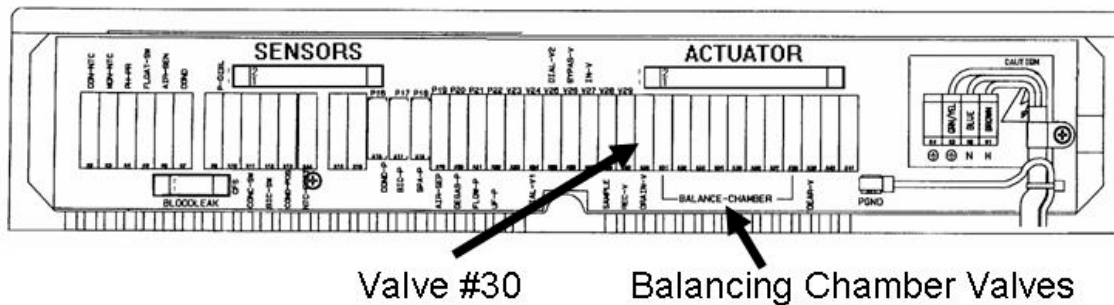

Figure 95 – Distribution Board
- B. **Intensive work is done inside the distribution board, plugging and unplugging valves.** Referring to Figure 95 (page 533), ensure that all balancing chamber valves (#31 through #38) have their distribution board connectors labeled correctly and are plugged into their correct positions.